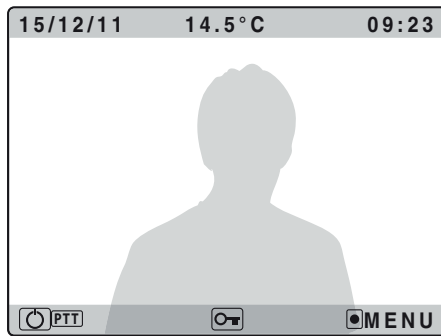

Fig.3
During the conversation Fig.3:
3. As shown in figure 3\*, once the wires are connected, fix the videophone to the flush mounting box using a Phillips screwdriver and the two screws provided.